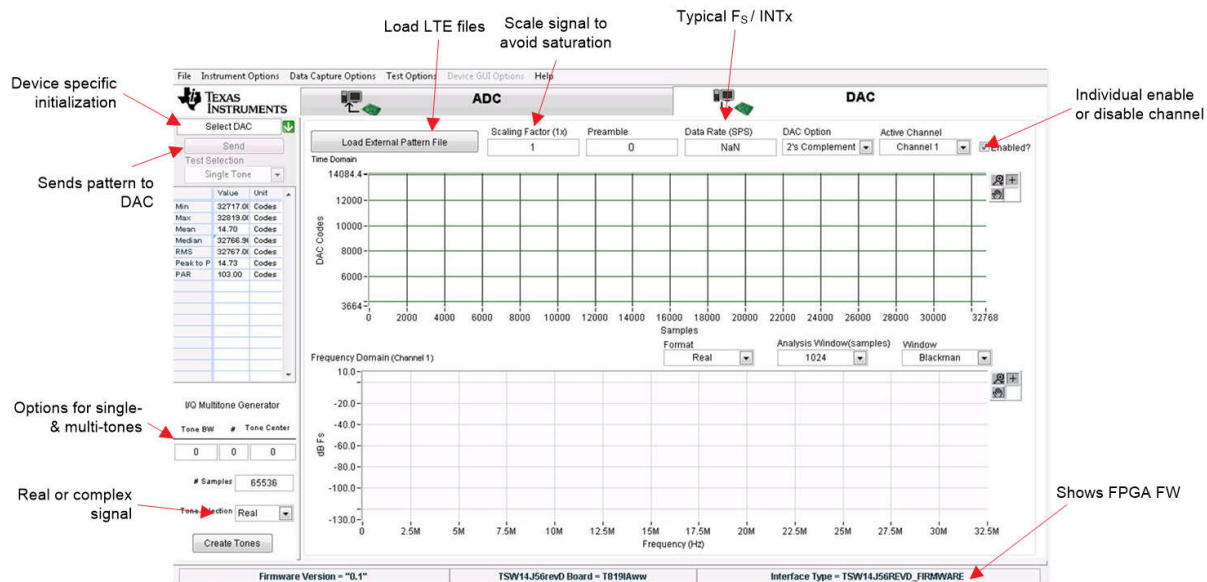

Figure 4-10. HSDC PRO DAC Tab Overview
1. Click on the HSDC PRO DAC tab. Figure 4-10 shows a brief description of the DAC tab.